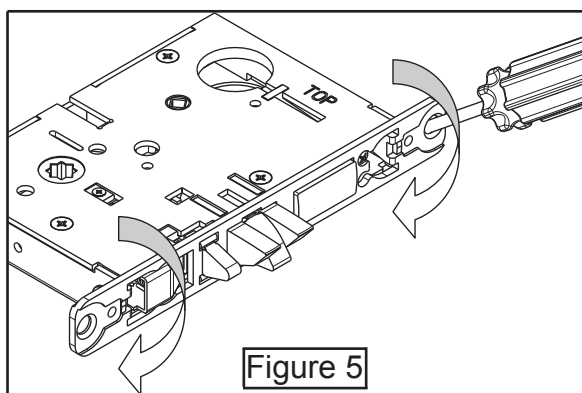

Figure 5
Step 5) Rotate lock front to match level of door as shown (Fig. 5)